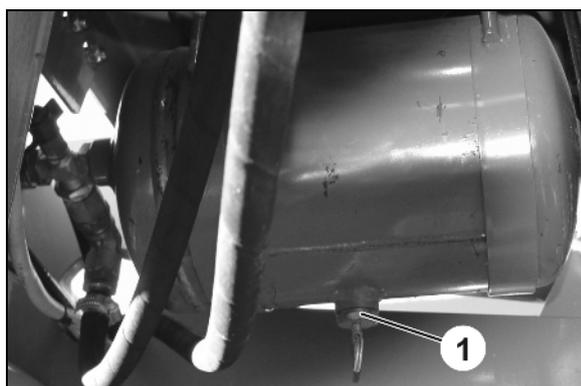

Fig. 136
1. Pull the drain valve (Fig. 136/1) in a side-ways direction using the ring until no more water escapes from the air reservoir.